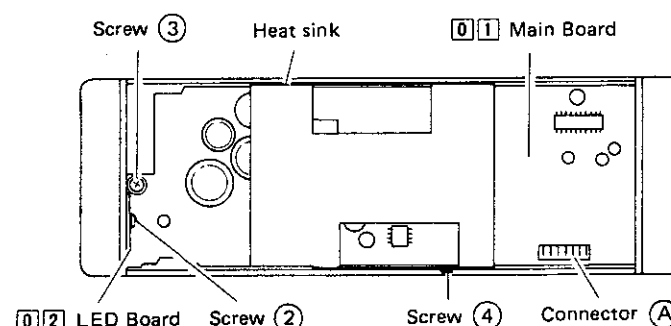

Fig. 2-2
2. To remove the front and rear panels, lift up while pressing heat sink after the top cover has been removed. Remove screw ② shown in Fig. 2-2 to remove the LED board.
3. Remove screws ③ and ④. Now lift the heat sink to remove connector ⑤. The main board can now be removed.